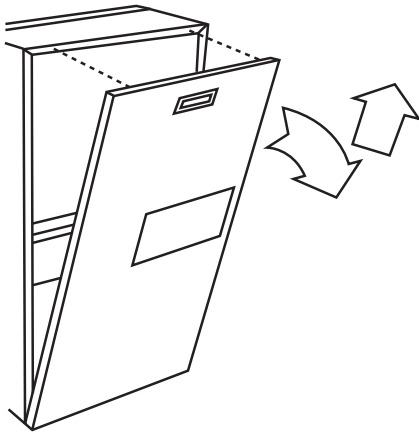

Fig. 10 - Remove Furnace Door
4. Remove main furnace door. (See Fig. 10.)
3. Remove main furnace door. (See Fig. 10.)